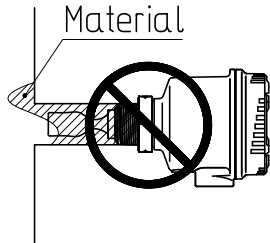

Fig. 5-15
(5) In sticky material applications, response to wet-to-dry may be slower. Response to dry-to-wet will not be affected.
(6) Remove material buildup periodically.
- (7) Ensure that the fork protrudes into the tank or piping. Otherwise faulty operation or slower response may result with sticky material, causing the pump to run dry. (Fig. 5-15)